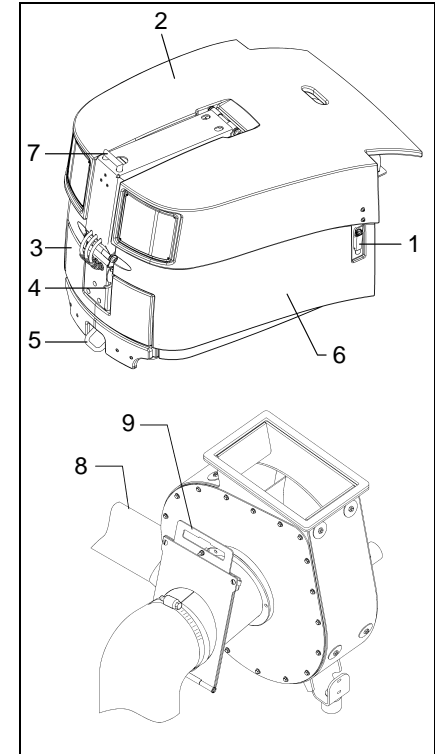

Fig.26
The fastening device (Fig. 26/1) must always be locked. The pivoting lever (Fig. 26/7) must always be pushed in fully. It serves to prevent the filter case turning the wrong way.
- Raise the sweepings container (Fig. 26/6).
- Open the container flap (Fig. 26/3) by means of the lever (Fig. 26/5).
- Pull the container flap up and lock in place with the hook (Fig. 26/4).
- When the container is empty, the lever (Fig. 26/5) must engage on closing the container flap.
When using the hand-held suction hose (Fig. 26/8), the slider (Fig. 26/9) is in the closed position, as illustrated in the diagram. The default setting of the slider is open.